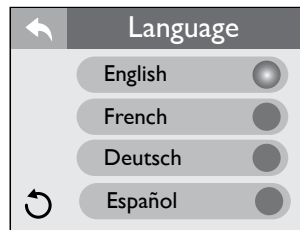

Figure 12.11b
1. There are 4 languages to select from: English, French, Deutsch, and Español. To select a language, tap ● next to the language you want to display, Figure 12.11b.